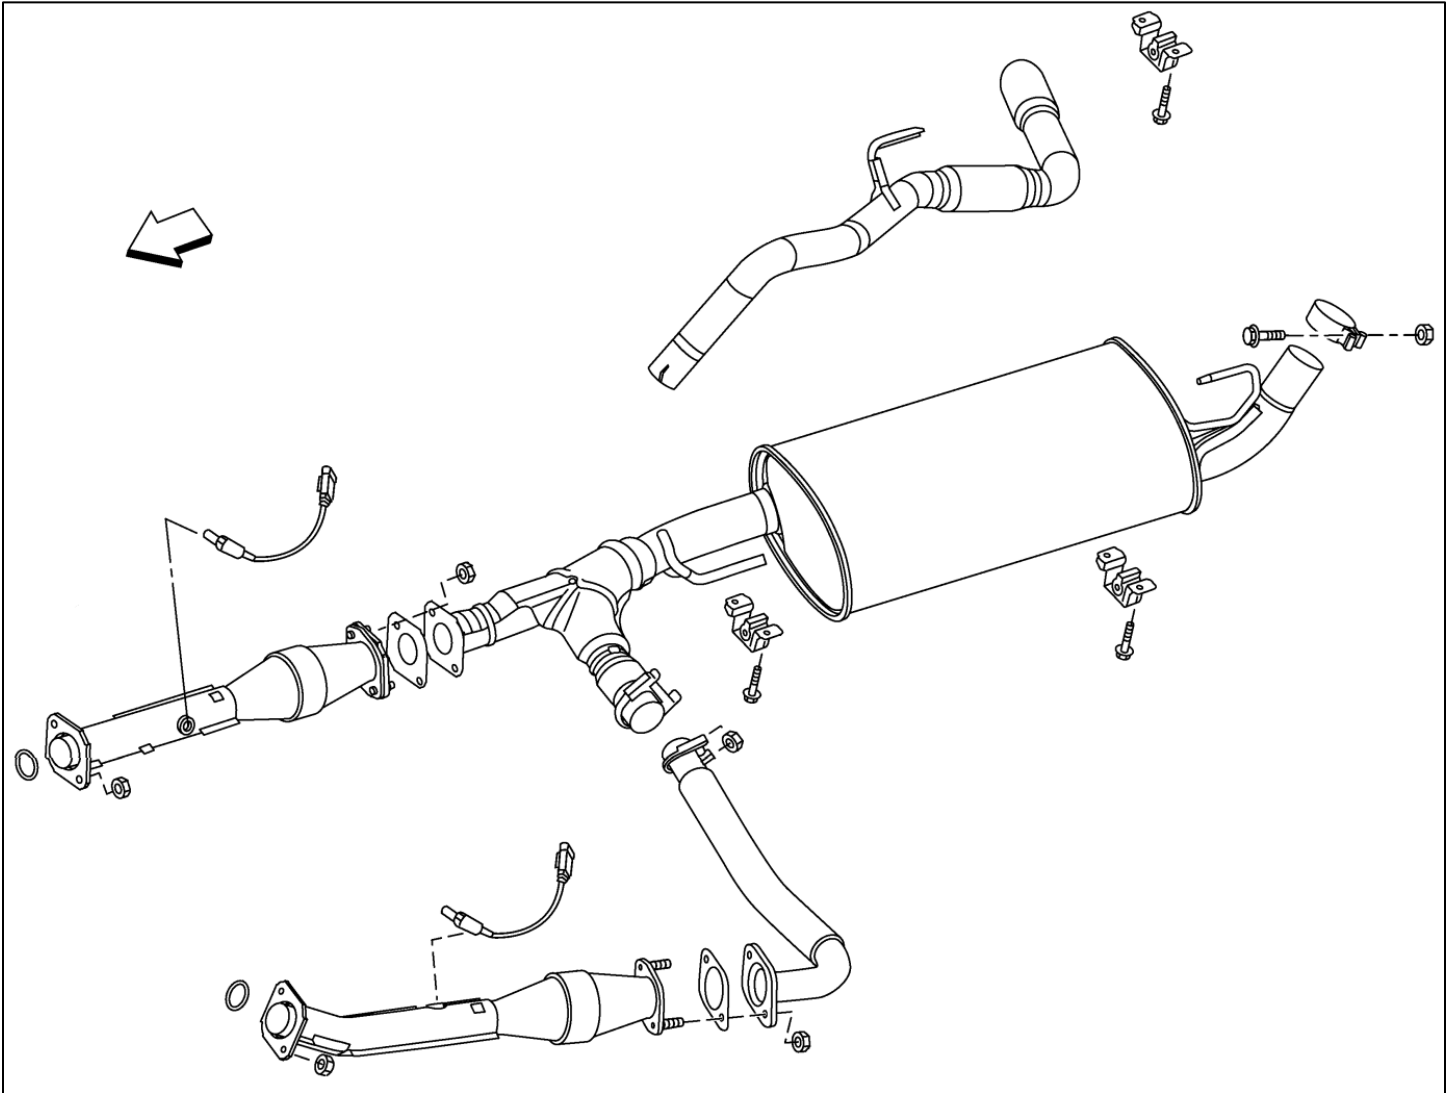

Figure 1
3. Remove the old Exhaust Components. We recommend spraying Rust Penetrating Fluid on the old Exhaust Fasteners ~30 minutes before removal. *Figure 1.*